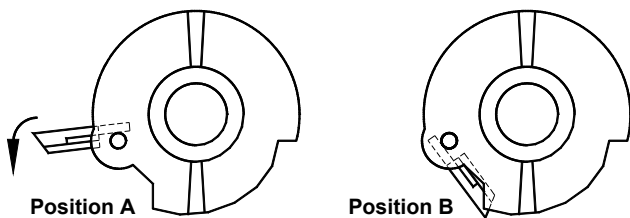

Fig. 18
- e. With the front of each dasher facing the installer, slide the scraper blade holder (**Long pin to front**) forward into the front of the dasher. Push the short pin back into the mating hole in the rear of the dasher assembly. This procedure must be performed with the blade in the correct position - Fig. 18 Position A. Then rotate the blade and lock it into place (Fig. 18 Position B).